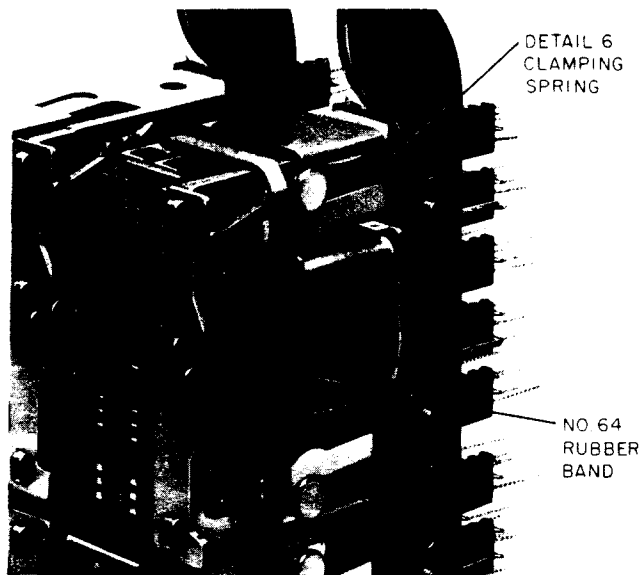

Fig. 21—Proper Position of Rubber Band Across U-Shaped Portion of Armature Spring
3.58 Slip a No. 64 rubber band over the unit and the U-shaped portion of the armature spring close to the front spoolhead, as shown in Fig. 21. This will prevent the armature spring from falling off when the unit is removed from its mounting bracket.
3.74 Slip a No. 64 rubber band over the unit and the U-shaped portion of the armature spring close to the front spoolhead, as shown in Fig. 21. This will prevent the armature spring from falling off when the new unit is removed from its mounting bracket.